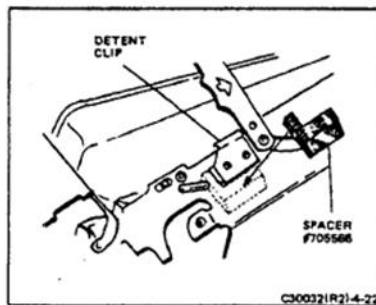

FIGURE 4-22 INSTALLING ERECTING LINK SPACER
- b. With the camera fully erected, slip special spacer #705366 under the edge of the detent clip as shown in Figure 4-22. The spacer will snap into place under the edge of the clip and will provide the needed clearance between the lower camera back assembly and the bottom cover.
NOTE: Early cameras do not have the detent clip shown in Figure 4-22 so the spacer cannot be installed. However, these cameras should not exhibit this clearance problem anyway. Also, new camera models have a modified detent clip which eliminates the clearance problem.